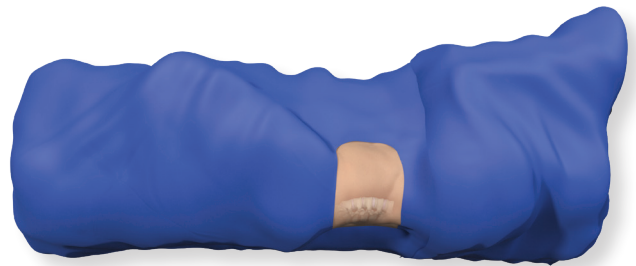

Figure 4
- Drape and prep the surgical site for the lateral procedure and MIS posterior fixation procedure (Figure 4).